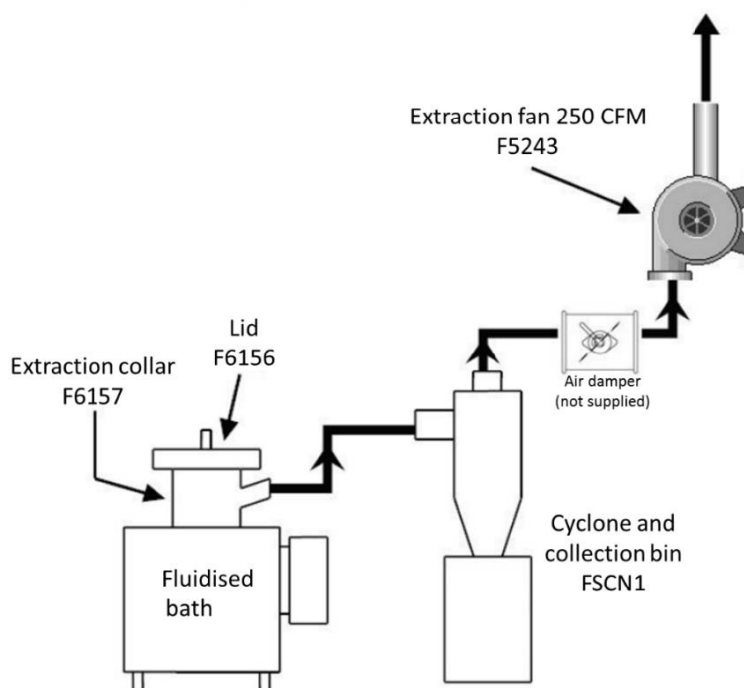

Figure 2: Schematic of fluidised bath set up with cyclone and basic exhaust extraction system.
6. Install and connect any associated fume treatment equipment with appropriate ducting and connect to the fluidised bath extraction collar. See figure 2 above and section FUME CLEANING.
7. Make sure the exhaust system is plumbed according to our recommendation (see Figure 2 and section FUME CLEANING).